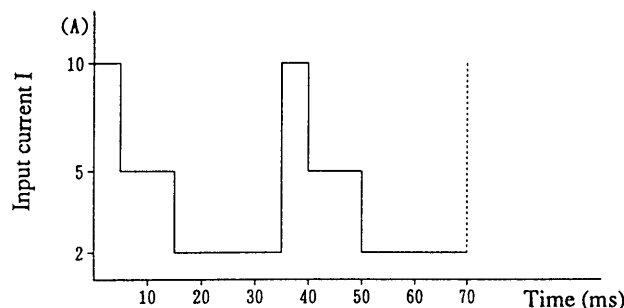

Figure 3.5-9
Assume that data stored on memory units A, B and C are as shown in Table 3.5-2. The switching actions in this case will be as shown in Figure 3.5-9.
- If you need a trigger signal delivered in synchronization with the switching timing, press the **[SHIFT] + [R SET] (CONFIG)** keys to display the configuration menu and select **[ON]** of menu **[8: SW Trig Out]**. If you do this, a trigger pulse signal (in synchronization with the switching points shown in Figure 3.5-9, for example) will be delivered. A trigger output terminal for this purpose is provided on the front sub-panel. The trigger output signal is delivered also to the trigger output terminal of the external control connector on the rear panel.
- ① Press the **[I SET]** or **[R SET]** key to enable the switching mode of operation.